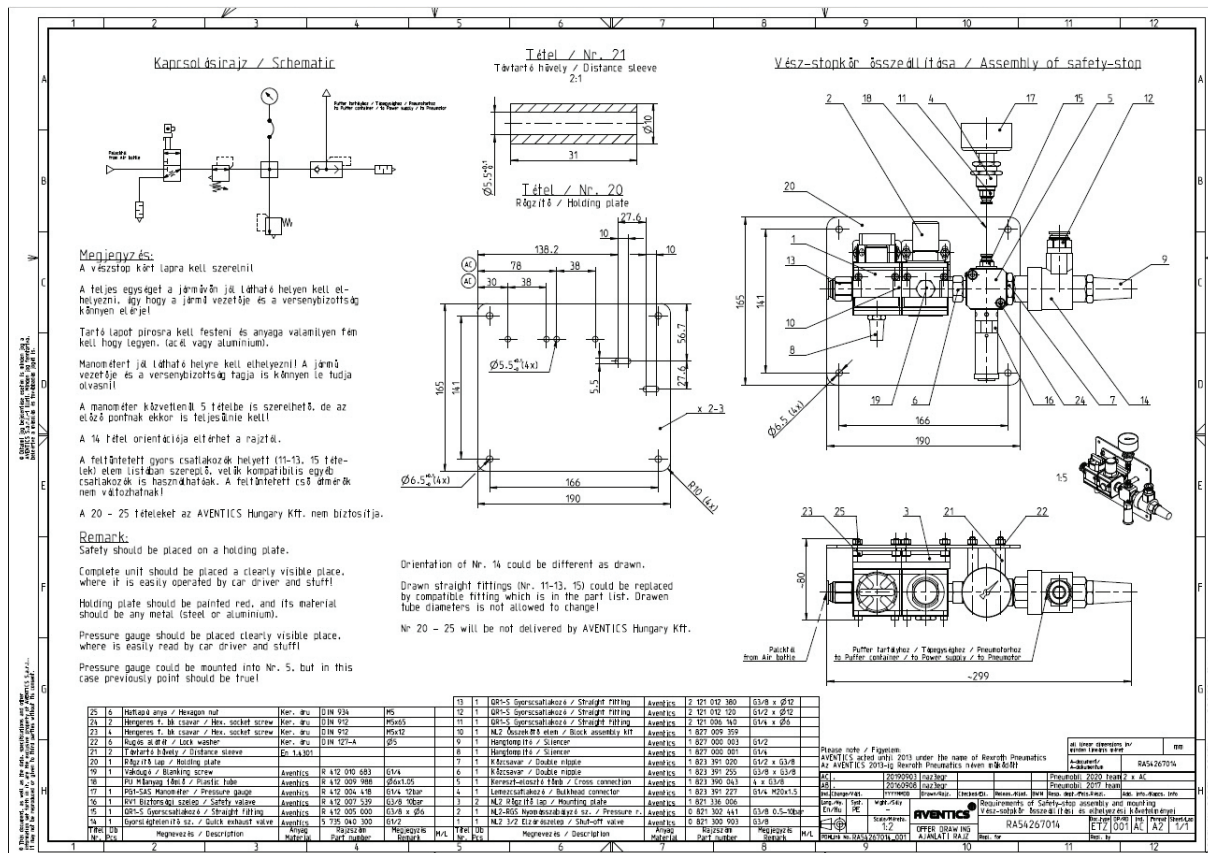

Figure 5 Pneumatic safety circuit. (See : http://pneumobil.hu/pneumobil_2019/letoltesek)
- Technical specification of safety circuit is presented on figure 5.